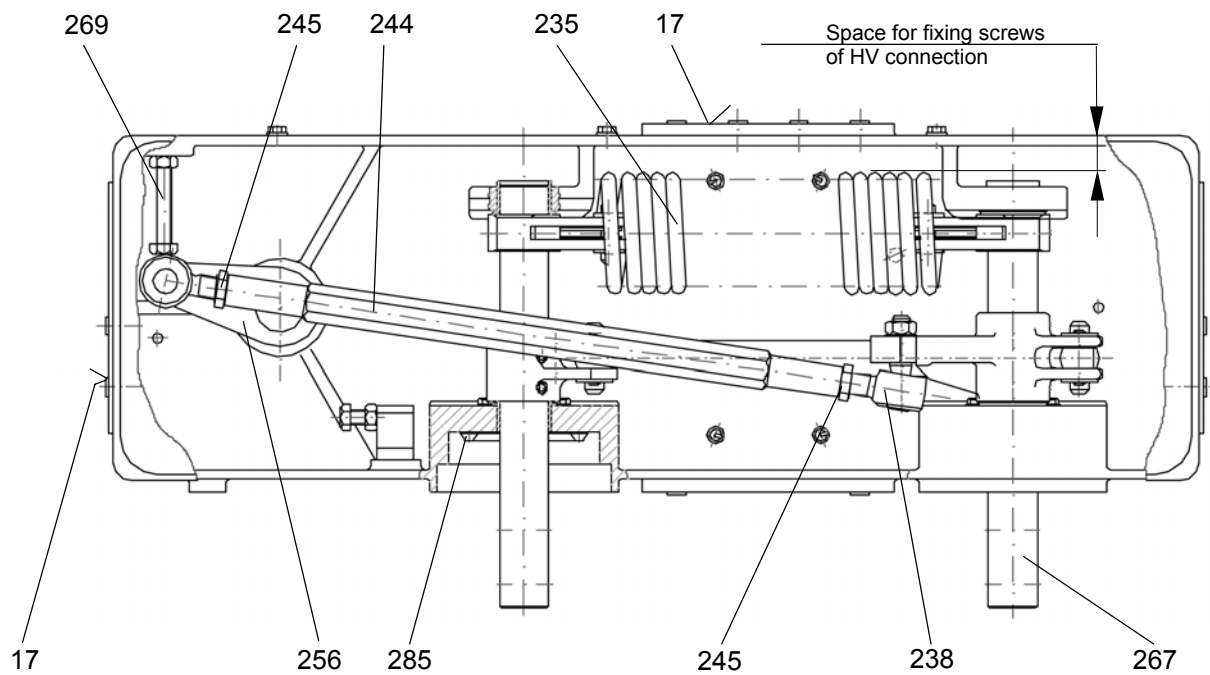

Figure 9 Gear box 224, sectional drawing: plan view (switching position CLOSED)
7.5.1a **Standard design** (Fig. 9 A)
7.5.1b **Special version with AgNi inlay** (Fig. 9 B)
7.5.1c **Suspended commutation contact** (Fig. 9 B)
- 7.6.12 Mark position between coupling piece and operating shaft. Perform two manual switching tests with emergency crank 39. Check for perfect dead-center interlocking by the operating linkage 244 in the gear box (Figure 9).